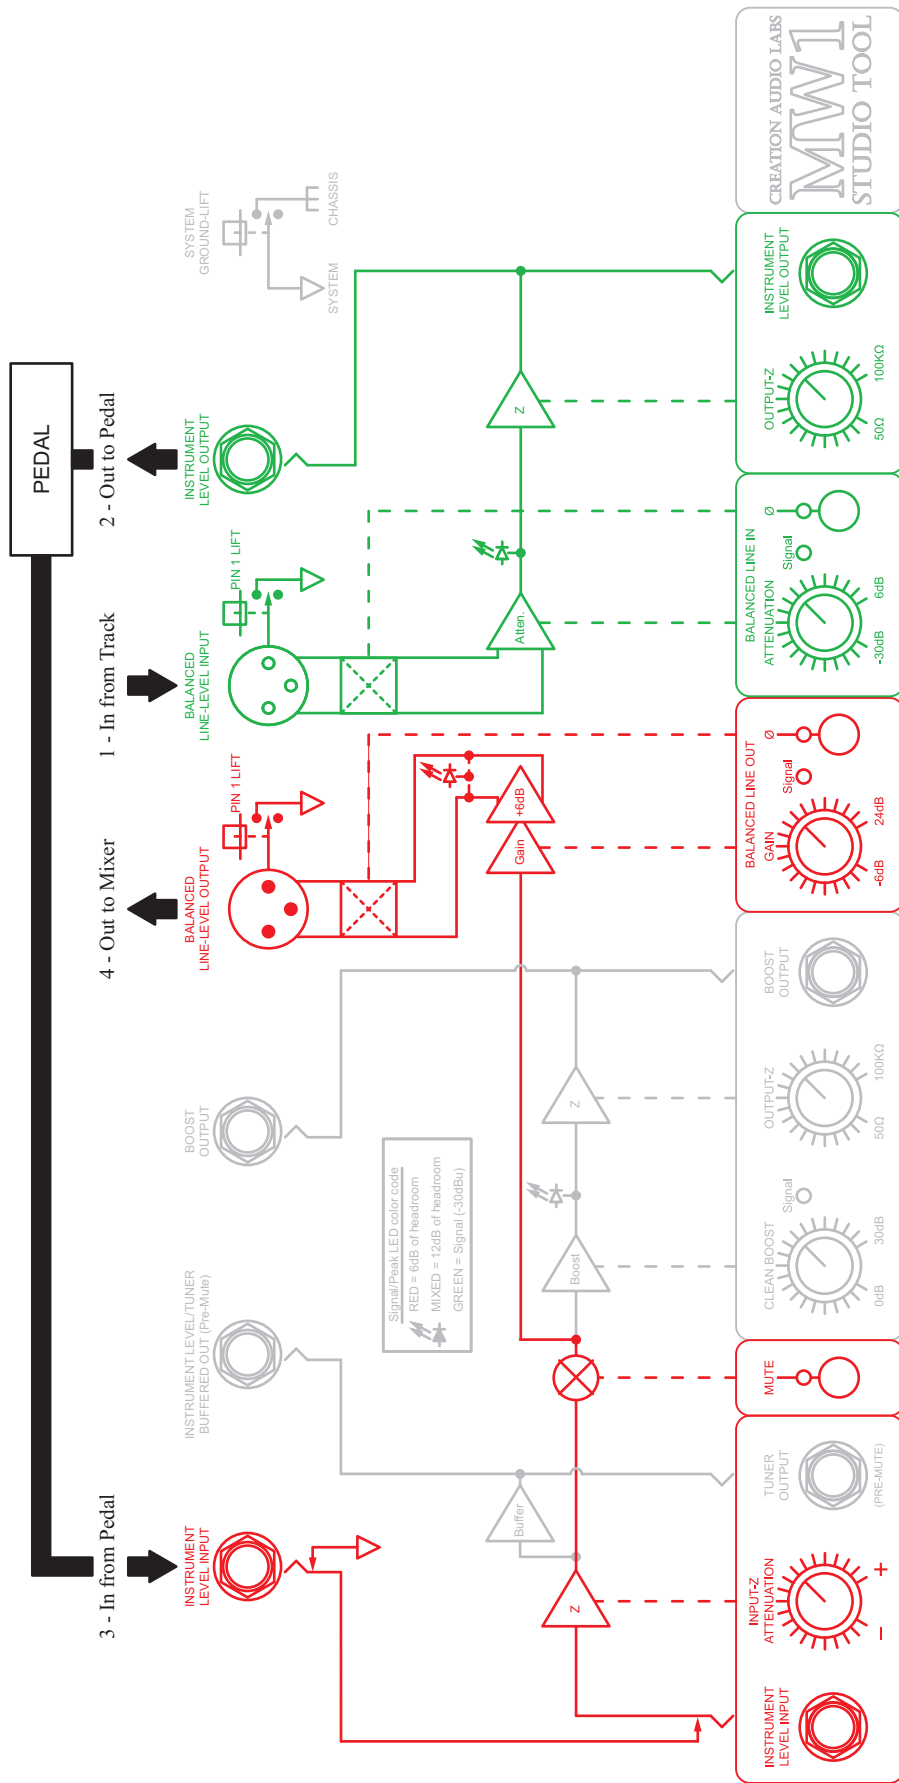

FIG. 7
- Instrument level effects and guitar pedals can be used on pre-recorded tracks during mix. (Fig. 7)
- INSTRUMENT LEVEL INPUT** ¼” input for introducing signal to the MW1 Studio Tool from low level sources such as guitars, bass, keyboards, etc. Additionally, when the MW1 Studio Tool is being used to place a low level device such as a guitar flanger pedal across a previously recorded track the **output of the pedal** would be connected to this input on the MW1 Studio Tool (see Fig. 7 of the Quick Reference Sheet). This input is unbalanced.